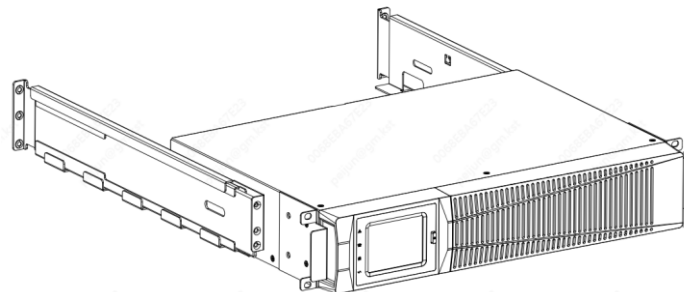

Figure 4 Securing the Front of the Cabinet
- l) Secure the front of the UPS to the rack using one M5×12 pan-head screws and one M5 cage nuts on each side(see Figure 4).Install the bottom screw on each side through the bottom hole of mounting bracket and the bottom hole of the rail.